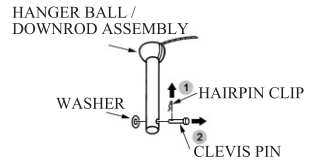

FIG.1
1. Remove the hairpin clip & washer from the clevis pin and remove clevis pin from down rod. (see Fig.1)
3. CONNECTING THE RECEIVER (FIG.1)